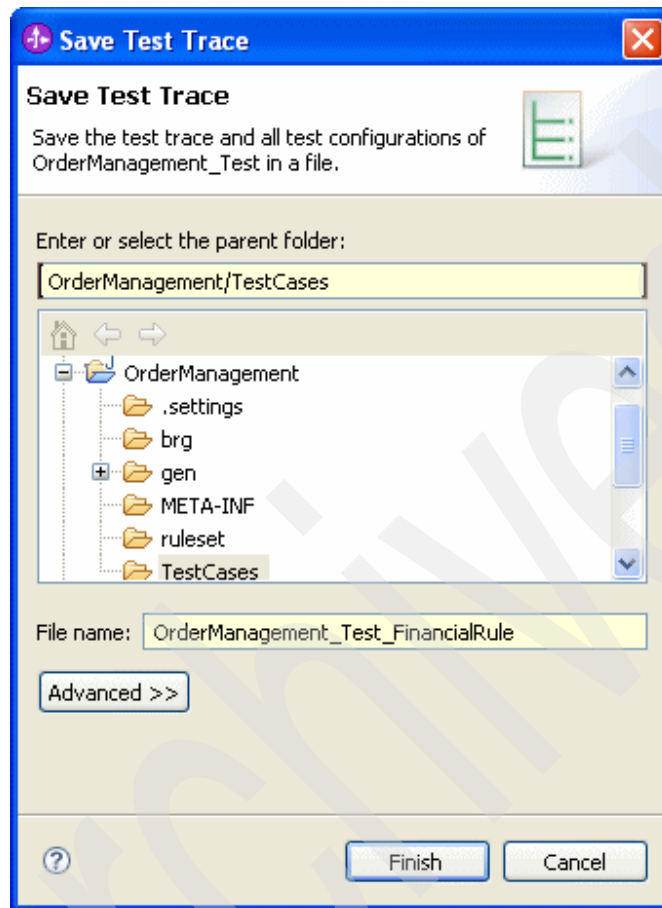

Figure 3-104 Saving financial rule trace file
7. You can optionally save your trace file as shown in Figure 3-104.